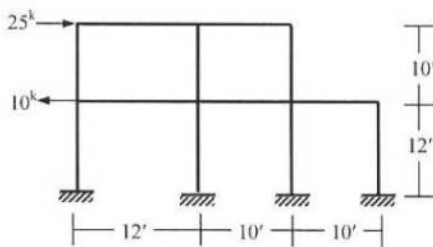

Fig. 1
1. For the 2-storied frame loaded as shown in Fig.1, (i) Use the Portal Method to draw the SFD of the columns and BMD of the beams, (ii) Use the Cantilever Method to draw the axial force diagram of the columns. Assume all column areas are equal.